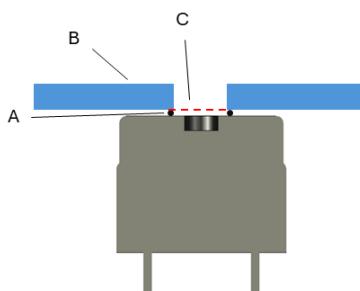

Figure 2
- Fig. 2: A straight opening with a diameter larger than that of the buzzer port,